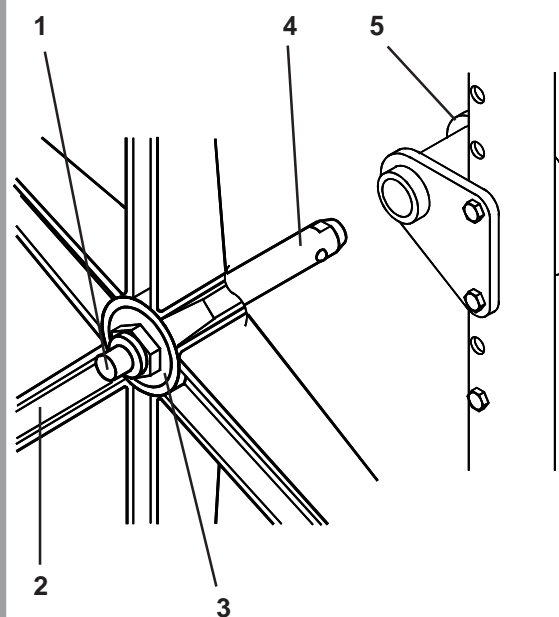

Fig. 23
To remove quick-release axles (Fig. 23), press the quick-release button (1) on the axle with your thumb whilst holding the wheel through the spokes (2) surrounding the hub (3). With the button pressed and the wheel gripped firmly, withdraw the axle and hub together. To place the wheel back on the chair, press the quick-release button (1) on the axle and slide it, with the wheel attached, into the axle sleeve until it locks. Ensure the two locking pins (4) are showing on the inside of the receiver (5).